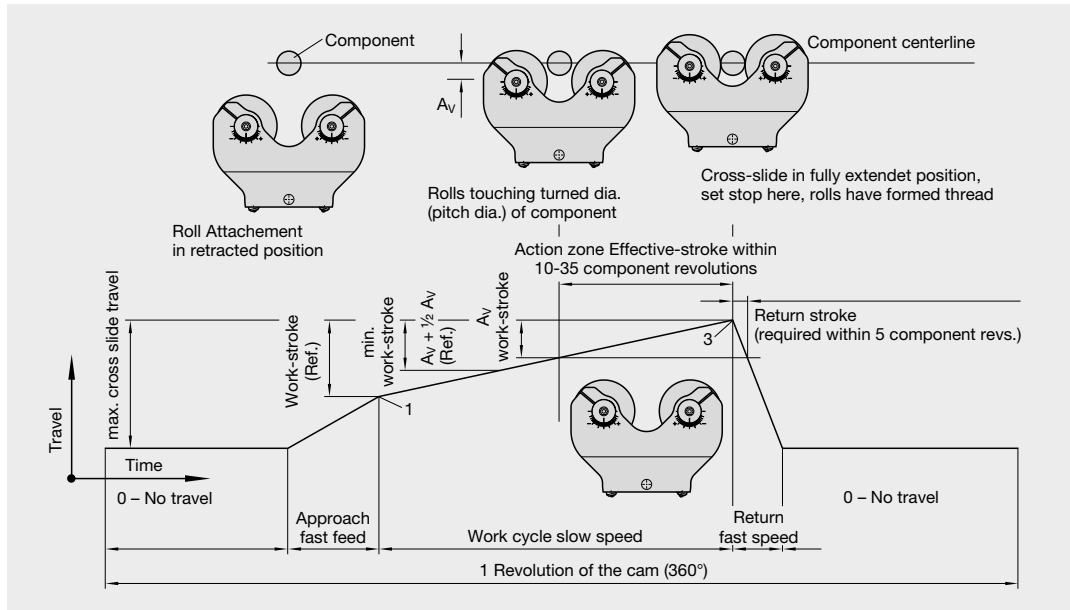

Figure 16: The tangential rolling process
Each step is shown in figure 16. Make sure that the fast feed approach is finished before the beginning of the work cycle. The working feed is the theoretical travel “AV” of the *rolling system* from the moment of initial contact of the rolls on the workpiece diameter all the way up to the end position of the work cycle. The working feed (AV) is shown in the table below. The precise “Av” value of an specific application is written on the setting gauge. The actual working feed should be completed within  $W = 20$  workpiece rotations.